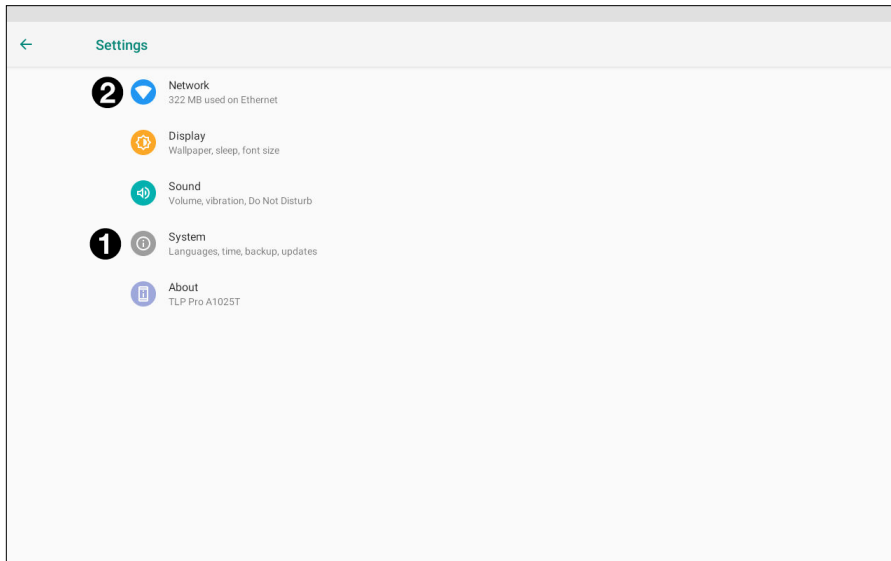

Figure 8. Settings Menu
4. Click **System** (see figure 8, ❶).
7. Return to the **Settings** page and click **Network** (see figure 8, ②, on the previous page).